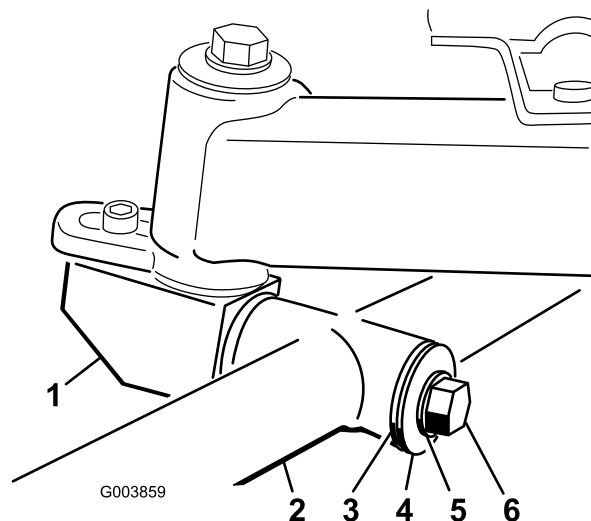

Figure 9
5. Align the mounting shaft of the cutting unit with the pivot tube on the carrier frame. Insert the shaft into the tube (Figure 9).
6. Secure the shaft in the pivot tube with a thrust washer, flat washer, lock washer, and bolt (Figure 9).